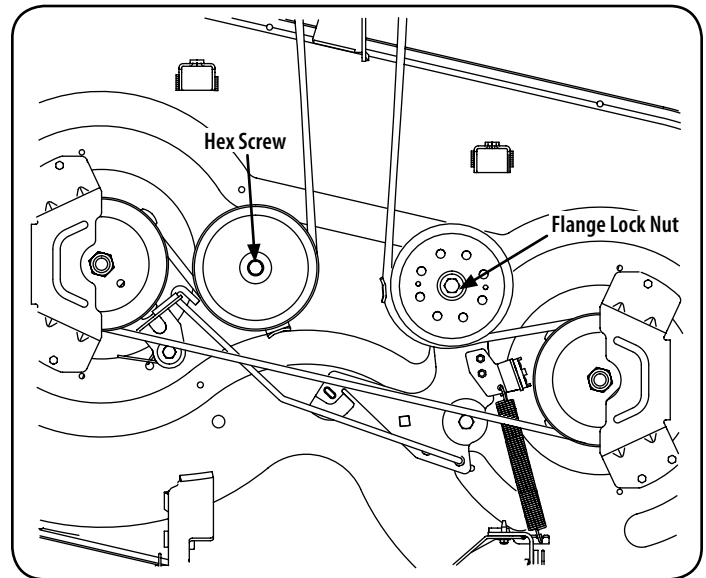
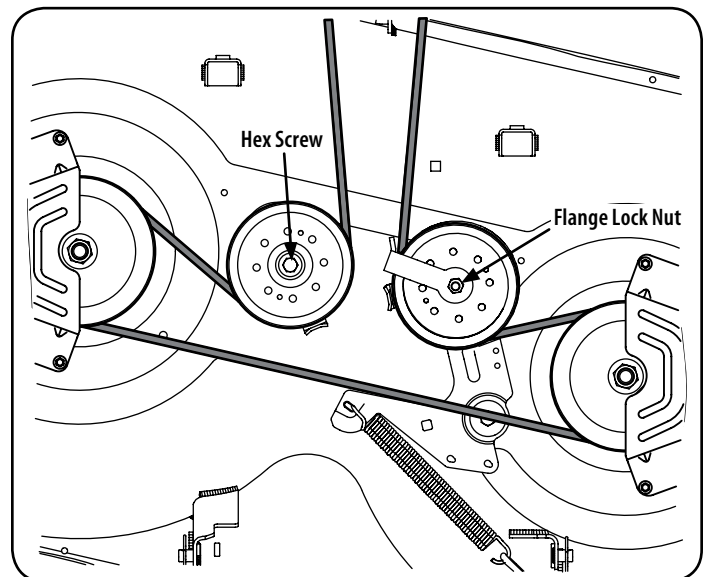
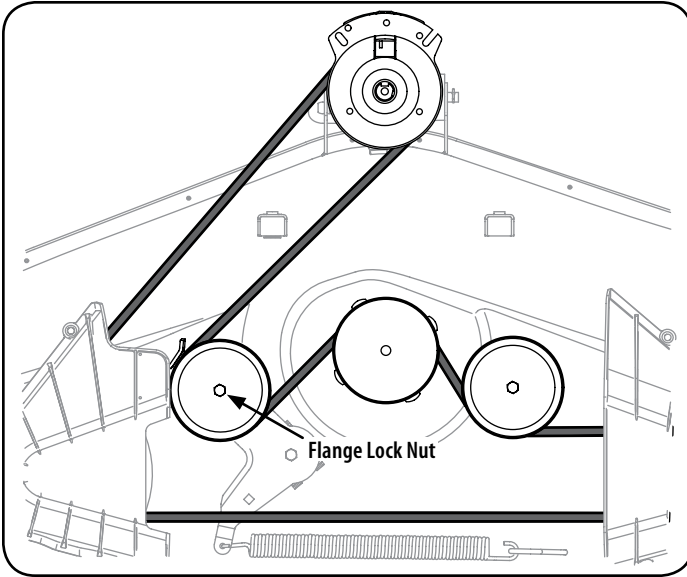

Figure 34
Figure 35
Figure 36
- Loosen, but do not remove the flange lock nut on the left idler pulley for 50" and 54" Decks and the right idler pulley for 42" and 46" Decks. See Figure 34 for 42" Decks, Figure 35 for 46" Decks and Figure 36 for 50" and 54" Decks.